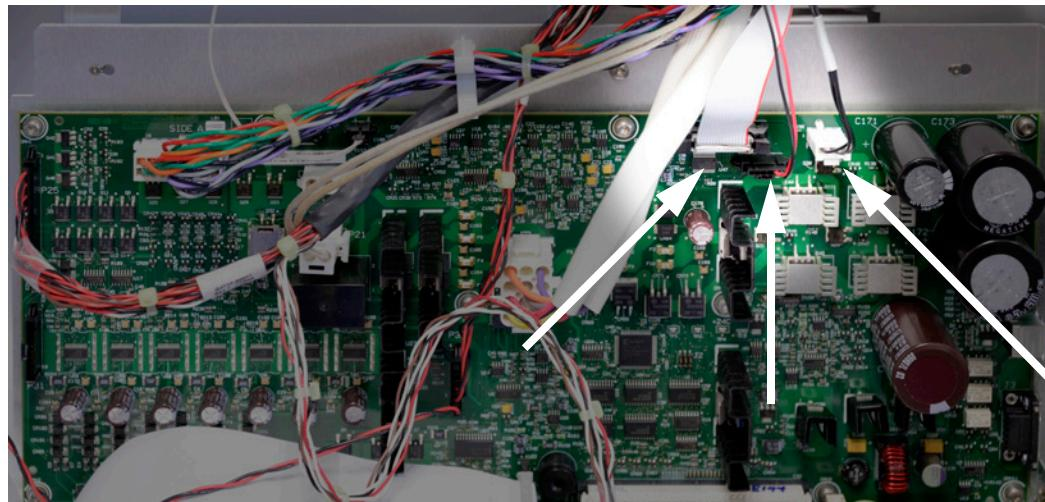

Figure 25 Tray cable connections P41, P42, and P43 on the main board
- 4 Route and connect the tray cables to connections P41, P42, and P43 on the main board (Figure 25).